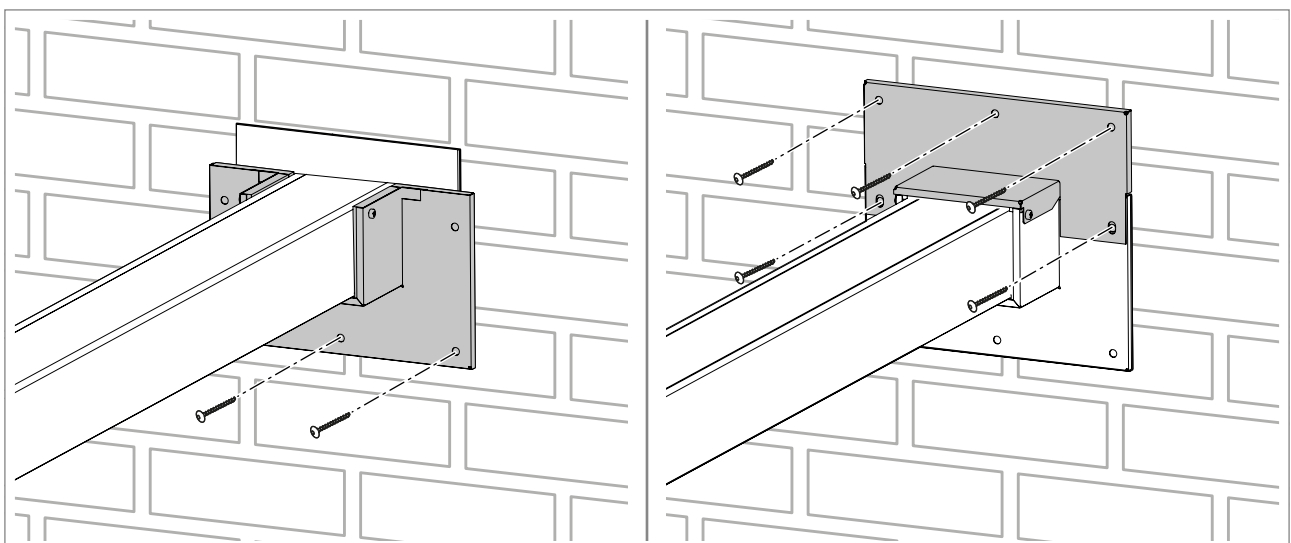

Fig. 50: Mounting the wall connection collar
2. Mount the wall connection collar ① as in Fig. 50.
3. Seal the component opening from the other side with an approved insulation ②.